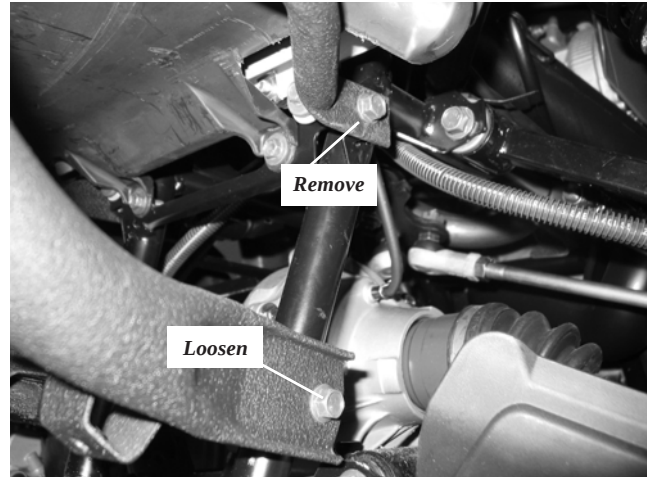

Figure 4: Remove center bolts of grab bar and loosen bottom bolts
4. Remove bolts securing grab bar to frame. See figure 4. Loosen bottom bolts securing grab bar to ATV frame. See figure 4.